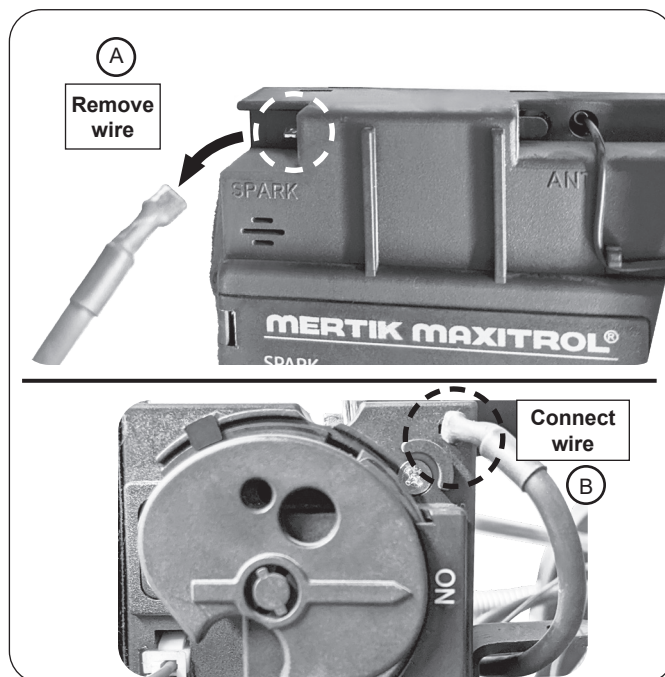

Fig. 9-2 Piezo igniter rewiring (if desired)
Change the ignition cable from the receiver (see Fig. 9-2, A) to the valve (see Fig. 9-2, B). Push in the piezo igniter to ignite. If pilot does not stay lit, wait five (5) minutes and repeat.